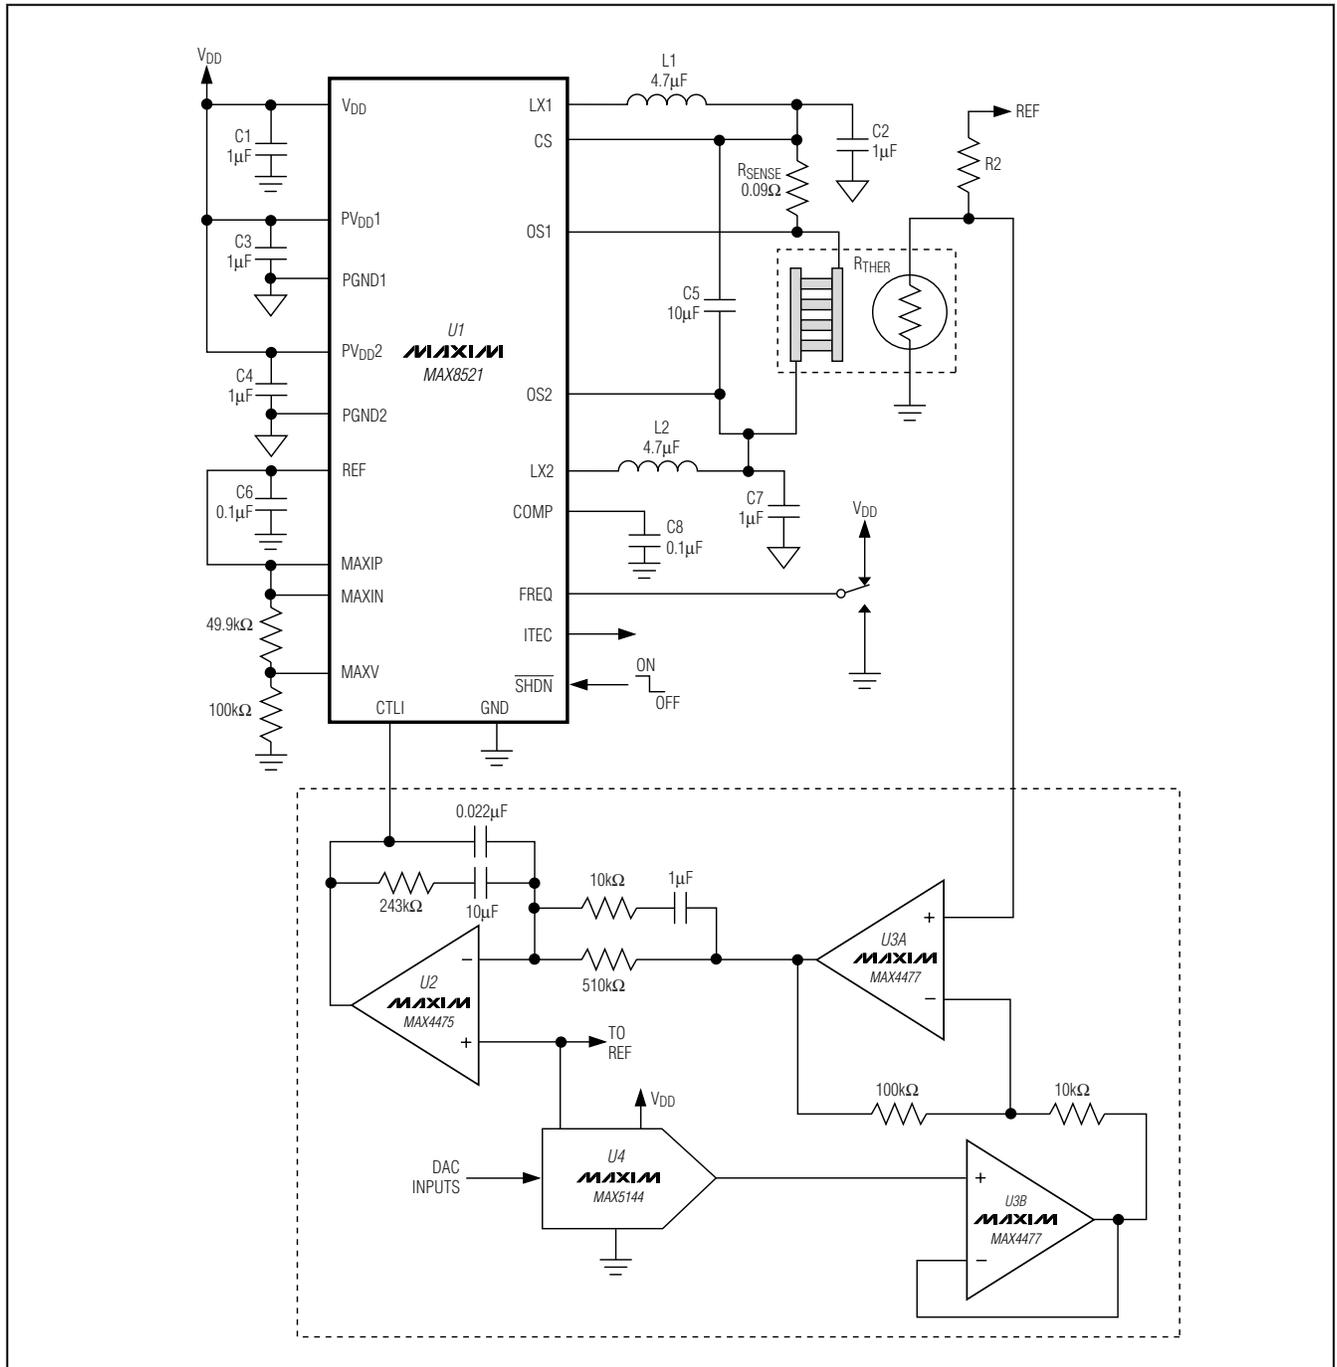

Figure 1. MAX8521 Typical Application Circuit
($V_{DD} = 5V$, circuit of Figure 1, $T_A = +25^\circ C$ unless otherwise noted)
(V_{DD} = 5V, circuit of Figure 1, T_A = +25°C unless otherwise noted)
The MAX8520/MAX8521 TEC drivers consist of two switching buck regulators that operate together to directly control the TEC current. This configuration creates a differential voltage across the TEC, allowing bi-directional TEC current for controlled cooling and heating. Controlled cooling and heating allow accurate TEC temperature control to within 0.01°C. The voltage at CTLI directly sets the TEC current. An external thermal-control loop is typically used to drive CTLI. Figures 1 and 2 show examples of the thermal-control-loop circuit.
Table 1. TEC Connection for Figure 1
The MAX8520/MAX8521 include an on-chip voltage reference. The 1.50V reference is accurate to 1% over temperature. Bypass REF with 0.1μF to GND. REF can be used to bias an external thermistor for temperature sensing as shown in Figures 1 and 2.
The differential-mode filter capacitor (C5 in Figure 1) is used to bypass differential ripple current through the TEC as the result of unequal duty cycle of each output. This happens when the TEC current is not at zero. As TEC current increases from zero, both outputs move away from the 50% duty-cycle point complementarily. The common-mode ripple decreases, but the differential ripple does not cancel perfectly, and there will be a resulting differential ripple. The maximum value happens when one output is at 75% duty cycle and the other is at 25% duty cycle. At this operating point, the differential ripple is equal to 1/2 of the maximum common-mode ripple. The TEC ripple current determines the TEC performance, because the maximum temperature differential that can be created between the terminals of the TEC depends on the ratio of ripple current and DC current. The lower the ripple current, the closer to the ideal maximum. The differential-mode capacitor provides a low-impedance path for the ripple current to flow, so that the TEC ripple current is greatly reduced. The TEC ripple current then can be calculated as follows:
There are numerous ways to implement the thermal loop. Figures 1 and 2 show designs that employ precision op amps, along with a DAC or potentiometer to set the control temperature. The loop can also be implemented digitally, using a precision A/D to read the thermistor or other temperature sensor, a microcontroller to implement the control algorithm, and a DAC (or filtered-PWM signal) to send the appropriate signal to the MAX8520/MAX8521 CTLI input. Regardless of the form taken by the thermal-control circuitry, all designs are similar in that they read temperature, compare it to a set-point signal, and then send an error-correcting signal to the MAX8520/MAX8521 that moves the temperature in the appropriate direction.
6) To ensure high DC-loop gain and minimum loop error, keep the board layout adjacent to the negative input pin of the integrator (U2 in Figure1) clean and free of moisture. Any contamination or leakage current into this node can act to lower the DC gain of the integrator which can degrade the accuracy of the thermal loop. If space is available, it can also be helpful to surround the negative input node of the integrator with a grounded guard ring.